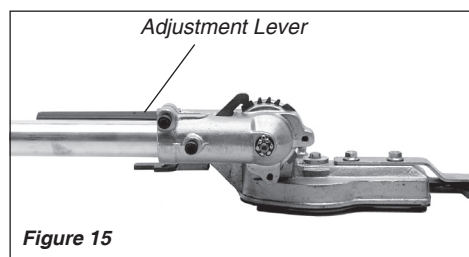

Figure 15
3. While holding the latch lock down, pivot the cutter assembly using the adjustment lever until it is straight with the outer tube (pivot 180°). See Figure 15.